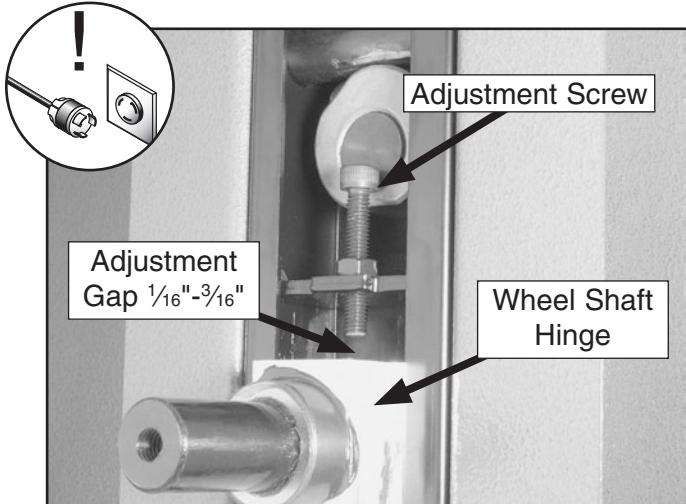

Figure 60. Tension lever adjustment components.
5. Turn the adjustment screw shown in **Figure 60** until the gap between the screw and the wheel shaft hinge is $\frac{1}{16}''$ – $\frac{3}{16}''$.